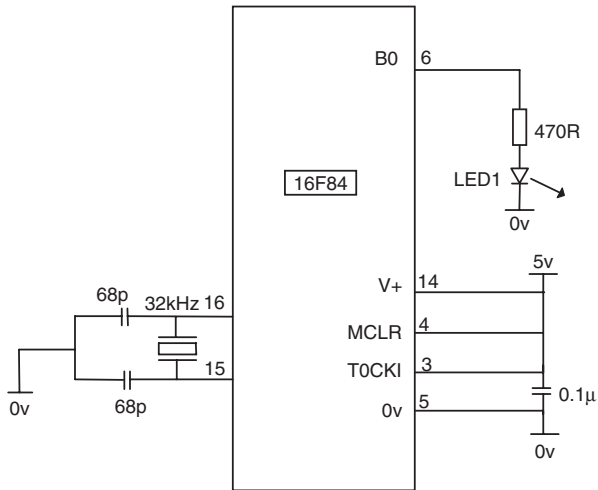

Figure 2.1 Circuit diagram of the microcontroller flasher
Let us consider a program to flash an LED ON and OFF at 0.5 second intervals. The LED is connected to PortB bit 0 as shown in Figure 2.1.
Notice from Figure 2.1 how few components the microcontroller needs – 2 × 68pF capacitors, a 32.768kHz crystal for the oscillator and a 0.1μF capacitor for decoupling the power supply. Other oscillator and crystal configurations are possible – see Microchip’s data sheets for other combinations. I have chosen the 32kHz crystal because it enables times of seconds to be produced easily.
- Line1 the instruction BSF and its data PORTB,0 is shorthand for Bit Set in File, which means Set the Bit in the File PORTB, where bit0 is the designated bit. This will cause PORTB,0 to be Set to a logic1, in hardware terms this means pin6 in Figure 2.1 is at 5v turning the LED on.
- Line3 BCF PORTB,0 is the opposite of Line1, this code is shorthand for Bit Clear in File, which means Clear the Bit in the File PORTB, where bit0 is the designated bit. This will cause PORTB,0 to be Cleared to a logic0, in hardware terms this means pin6 in Figure 2.1 is at 0v turning the LED off.